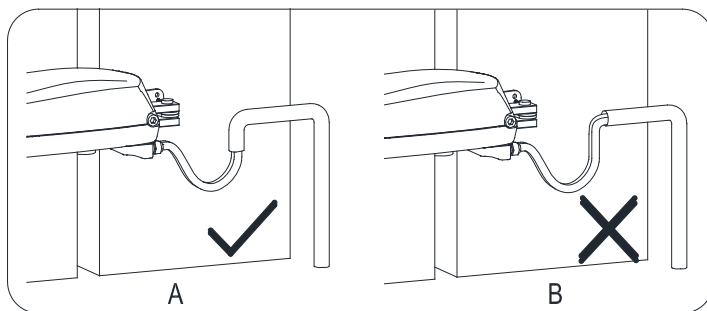

Fig.20
- In order to protect the wires, between the gate operator and the control box, armored cable, galvanized cable or PVC conduit must be set into the concrete when it is poured. To prevent rainwater from entering into the cable, arrange the cable as shown in Fig.20-A.